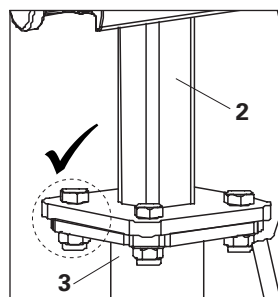

Fig. A3.06a
Always use M12 bolt on the drophead (2) side and nut on the prop (3) side. (Fig. A3.06a)